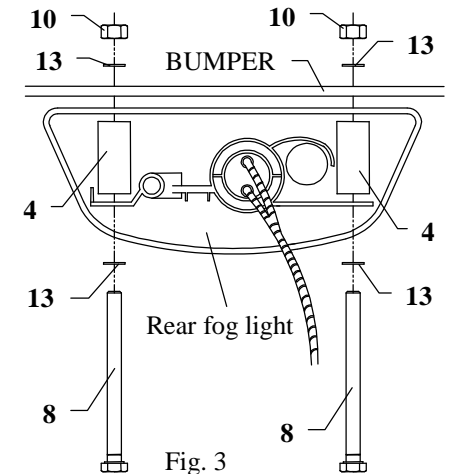

Fig. 3
4. Assemble rear fog light as shown in figure 3 using sleeves (pos. 4) and bolts M5x60mm (pos. 8) from towing hitch accessories.